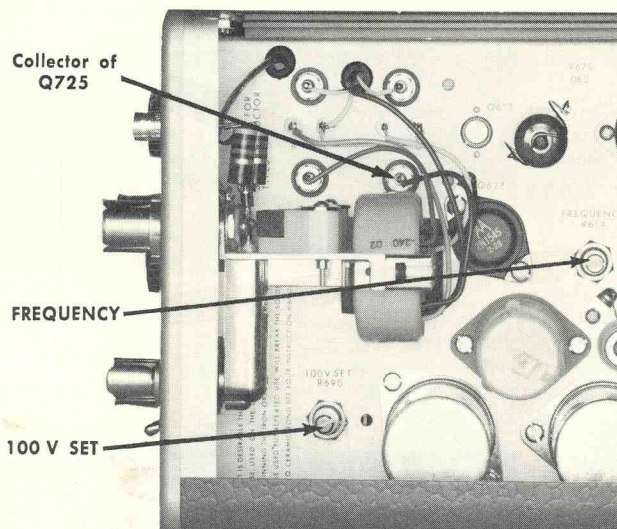
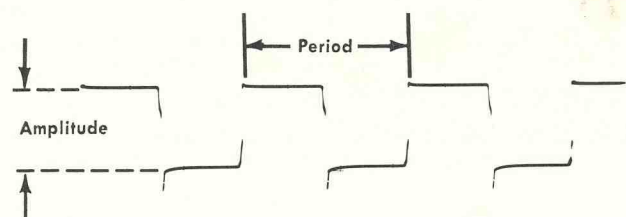

Fig. 6-4. Right side view, front portion of the Type 109, showing the location of the internal adjustments and the test point.
Fig. 6-5. Waveform measuring points.
- f. Adjust the 100 V SET control (see Fig. 6-4) to obtain a reading of exactly 100 volts.
- First, rotate the FREQUENCY control (see Fig. 6-4) fully clockwise and check the waveform according to the data given in Table 6-3 and Fig. 6-5. (Use the graticule markings on your test oscilloscope to determine the period and amplitude of the waveform.)
- Then, rotate the FREQUENCY control fully counter-clockwise and check the minimum frequency range based on the information given in Table 6-3 and Fig. 6-5.